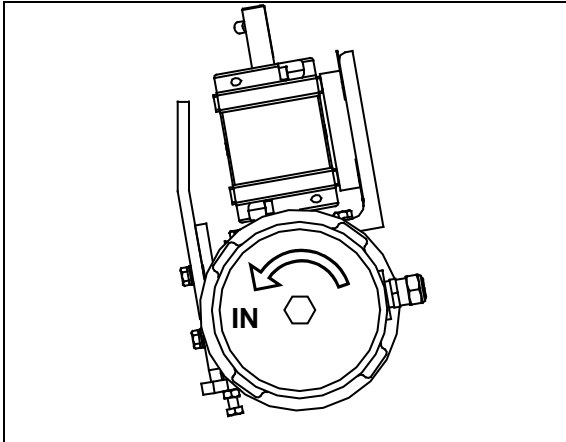
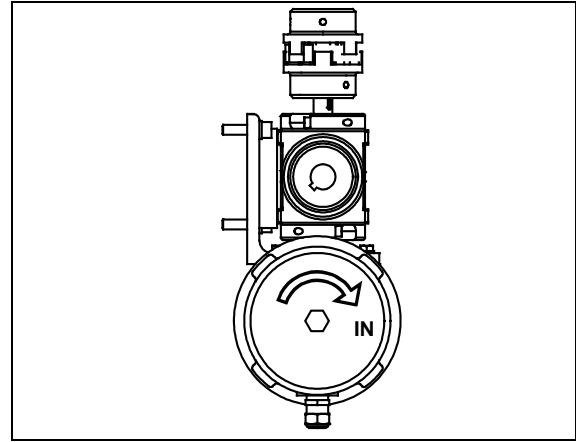

FIGURE 15 : DIRECTION OF ROTATION FOR RETRACTING (FRONT)
FIGURE 16 : DIRECTION OF ROTATION FOR RETRACTING (REAR)
5. Rotate the slide-out motor with a manual ratchet or any power drill until the slide-out comes to its closed position (refer to figure 15 for the front slide-out and to figure 16 for the rear slide-out). **Slow down on the closing speed as the slide-out approaches its closed position, in order not to overshoot it, which may damage the mechanism.**